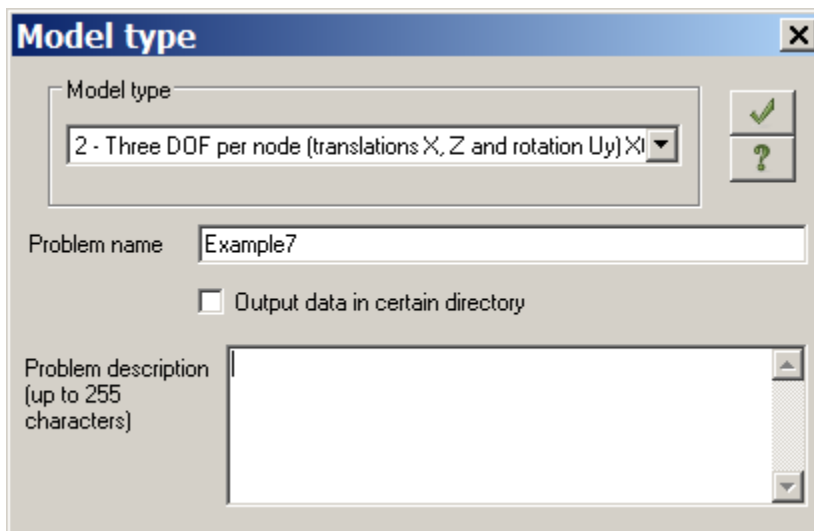

Figure 7.7 **Model type** dialog box
- ⇒ In the **Model type** dialog box (see Figure 7.7) specify the following data: